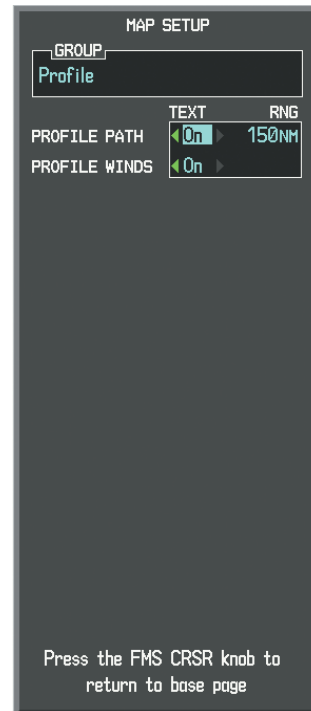

Figure 6-125 Navigation Map Page Setup Menu, Profile Group
- 5) Turn the large **FMS** Knob or press the **ENT** Key to scroll through product selections (Figure 6-125).